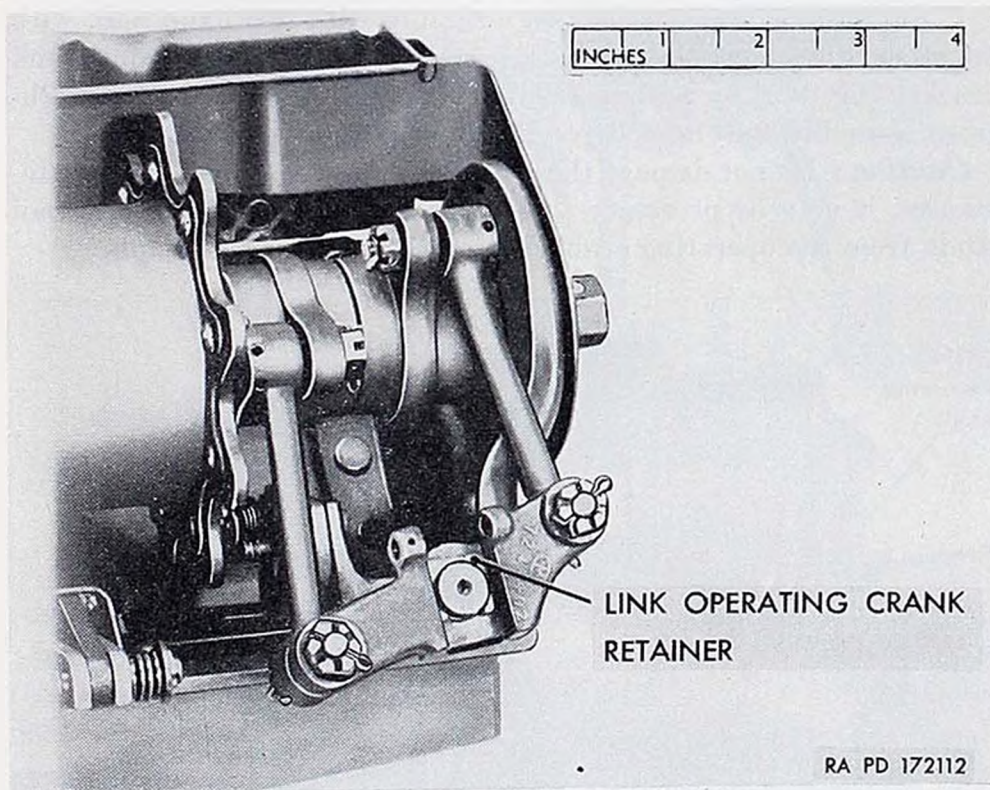

Figure 140. Removing link operating crank retainer from feed mechanism AN-M2.
d. Push link operating crank retainer (fig. 140) upward and remove it.